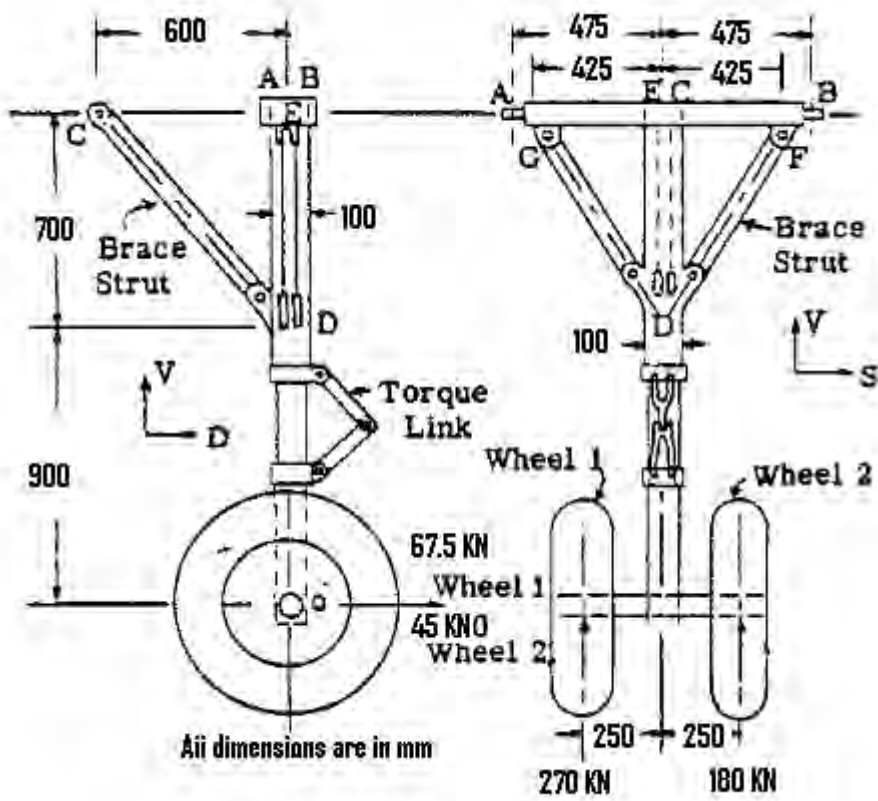

Figure1:
8. Find the forces (C_D , C_V , C_D , B_V , A_V , B_D , A_D) in each member of main landing gear shown in Figure 1. Assume additional data if necessary. [16]